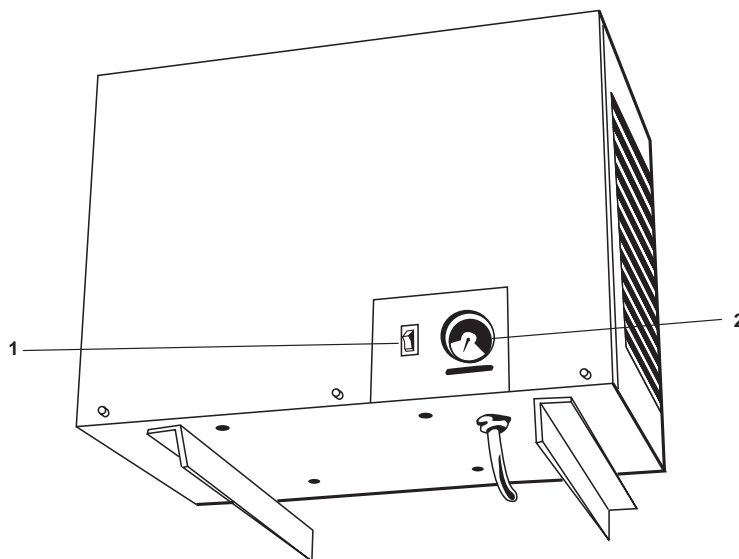

Figure 9. Control Air Dryer
- (2) In the forward port corner of the engine room, above SSDG 2:
- (a) Set the control air dryer switch (figure 9, item 1) to ON.
- (b) Monitor the control air dryer gauge (figure 9, item 2) to ensure normal operation. Normal gauge reading is 125 PSI (8.6 bar).